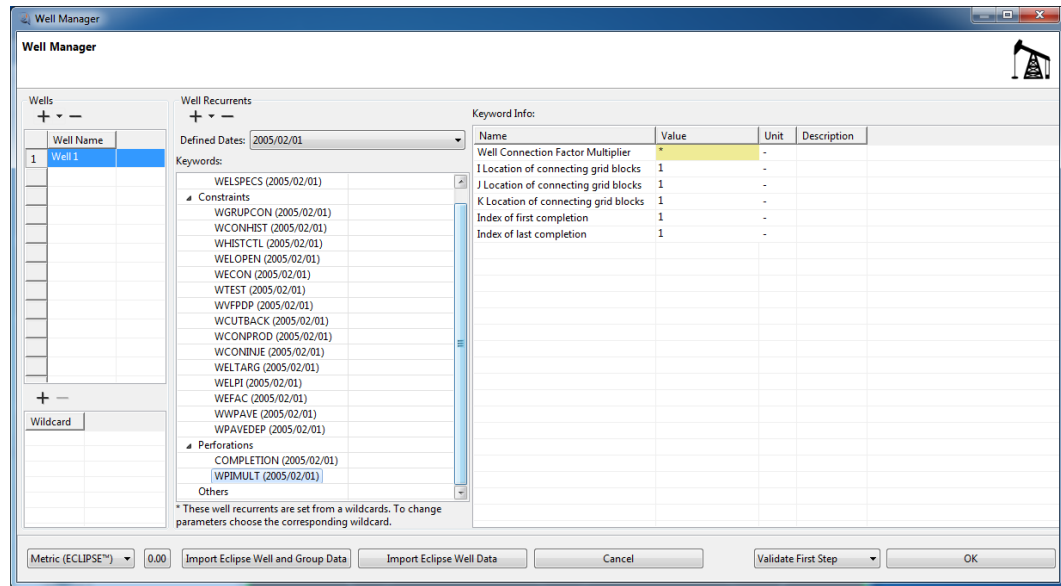

Figure 152 WPIMULT Data
This can be used to multiply the connection transmissibility factors of selected well connections by a specified value. To multiply the transmissibility factors of all the connections in a well, leave items 2-6 defaulted. To multiply the transmissibility factors of a subset of connections in a well, you can identify the subset by their I,J,K location (items 2-4). A subset of connections can also be identified by their completion number (items 5 and 6). If any of items 2-6 are set positive, the multiplying factor applies only to a subset of the connections in the well. The connections in the subset are those with I,J,K locations matching the specified location indices in items 2-4 and a completion number in the range specified by items 5-6. A zero or negative value for a location index (I, J or K) matches any value of that location index. Similarly a zero or negative value for a completion range lower/upper end-point indicates that there is no lower/upper bound on the completion numbers. Figure 152 displays the WPIMULT data. It contains the following data: